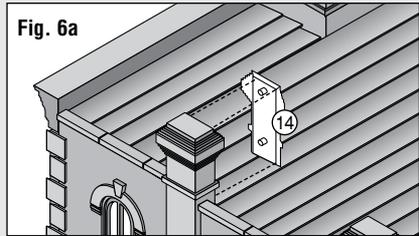

Fig. 6a
- Apply glue to Chimney Back ⑭ placement posts. Center over placement holes on built-in chimney and press in place (Fig. 6a).
- Repeat with Chimney Backs ⑮, ⑯ and ⑰.